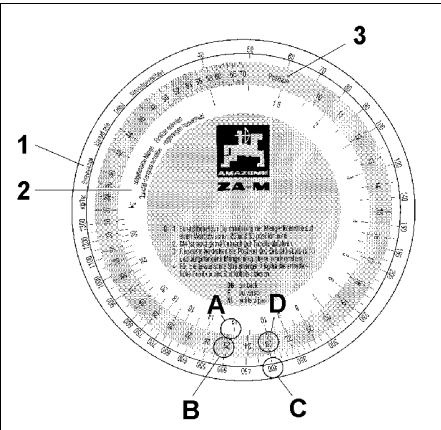

Fig. 30
- 2. The inner white scale for the amount of fertilizer [kg] collected during the calibration test (collected amount) (Fig. 30/2).
- 3. The center coloured scale with the shutter slide positions (Position). (Fig. 30/3).
- Take the calculating disc rule. On scale (Fig. 30/2) for collected quantity [kg] look for figure **12,5** (Fig. 30/A) and align with the chosen shutter slide position (Position) **25** (Fig. 30/B) on the coloured scale (Fig. 30/3).
- Look for desired spread rate **400 kg/ha** (Fig. 30/C) and read off the required shutter slide position (Position) **23** (Fig. 30/D).